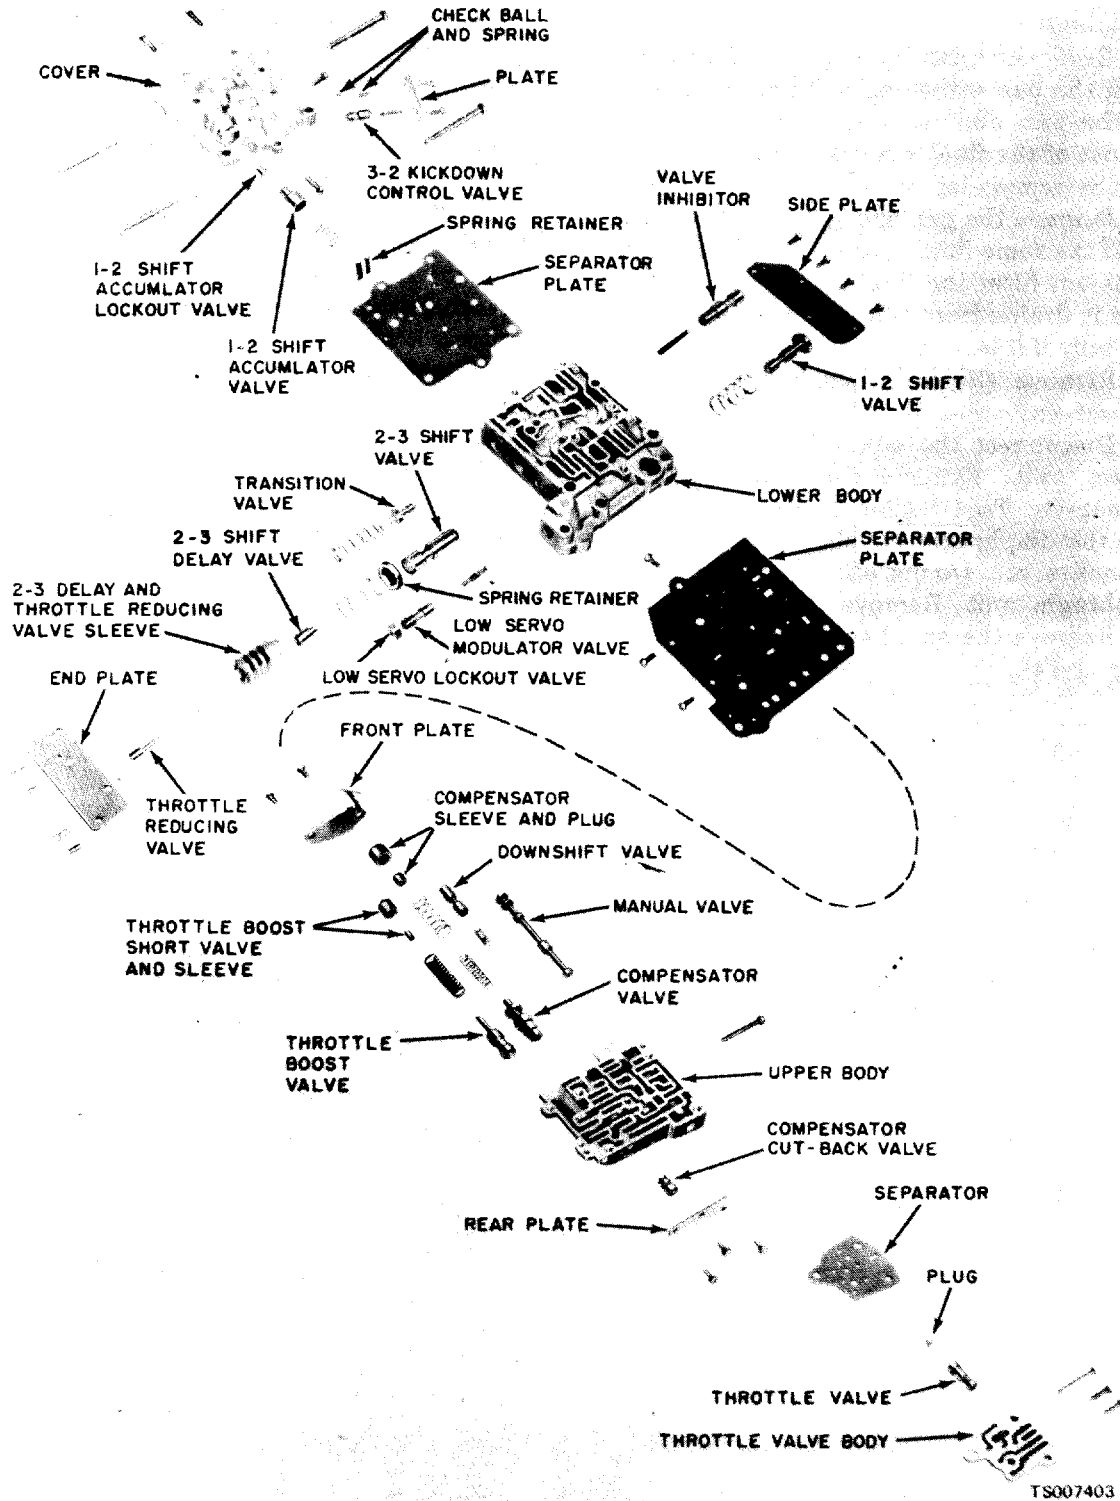

Figure 7-15. Control Valve Body.
(1) Refer to figure 7-15, and remove the manual valve.
(1) Arrange all parts in their correct positions (fig. 7-15) Rotate the valves and plugs when inserting them in their bores to avoid shearing of soft body castings.
(3) Position the lower body on the upper body, and start but do not tighten the attaching screws.
(4) Position the cover and separator plate on the lower body. Start the four through bolts.
(5) Align the separator with the upper and lower valve body attaching bolt holes. Install and torque the four valve body bolts to 20 — 30 in./lbs. Excessive tightening of these bolts may distort the valve bodies, causing valves or plugs to stick.
(6) Install the 3-2 kickdown control valve and spring and the check ball and spring in the cover. Install the plate (fig. 7-15).
(7) Insert the 1-2 shift accumulator lockout valve, 1-2 shift accumulator valve, and spring in the cover. Install the valve spring retainer.
(8) Install the transition valve and spring in the lower body.
(9) Install the 2-3 shift valve, spring retainer and spring. Install the 2-3 shift delay valve and the spring and throttle reducing valve in the sleeve. Slide the sleeve and valve into position in the lower body. Do not restake the sleeve.
(10) Install the low servo lockout valve spring. Install the low servo modulator and low servo lockout valves. Install the lower body end plate.
(11) Install the inhibitor valve spring and valve in the lower body.
(12) Install the 1-2 shift valve spring and valve. Install the lower body side plate.
(13) Install the compensator cutback valve in the upper body. Install the upper body rear plate.
(14) Install the downshift valve and spring in the body.
(15) Install the throttle boost valve and spring. Install the throttle boost short valve and sleeve.
(16) Install the compensator valve, inner and outer compensator springs, and the compensator sleeve and plug.